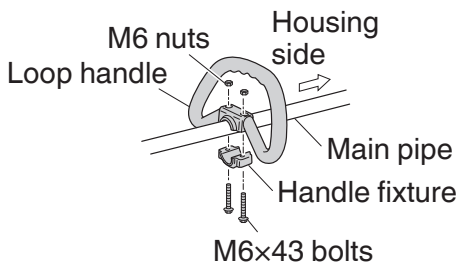

Fig. 6
1. Installing the loop handle (**Fig. 6**)